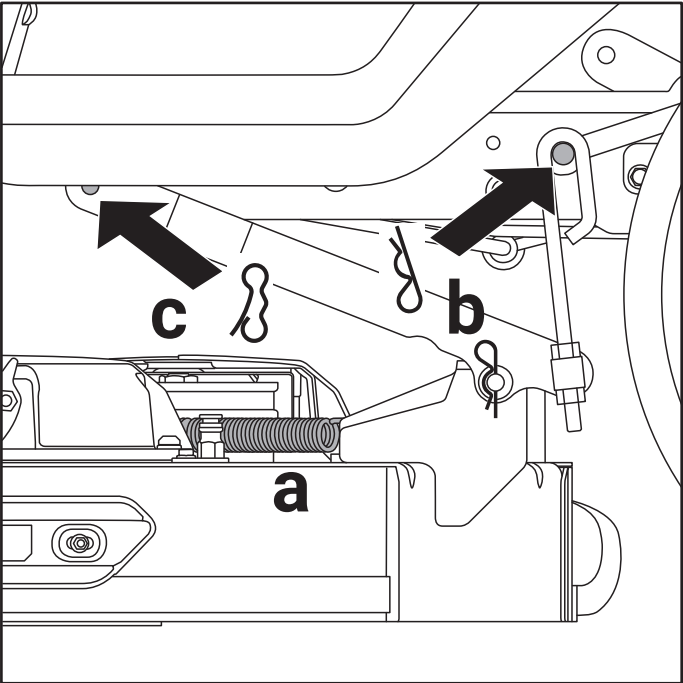
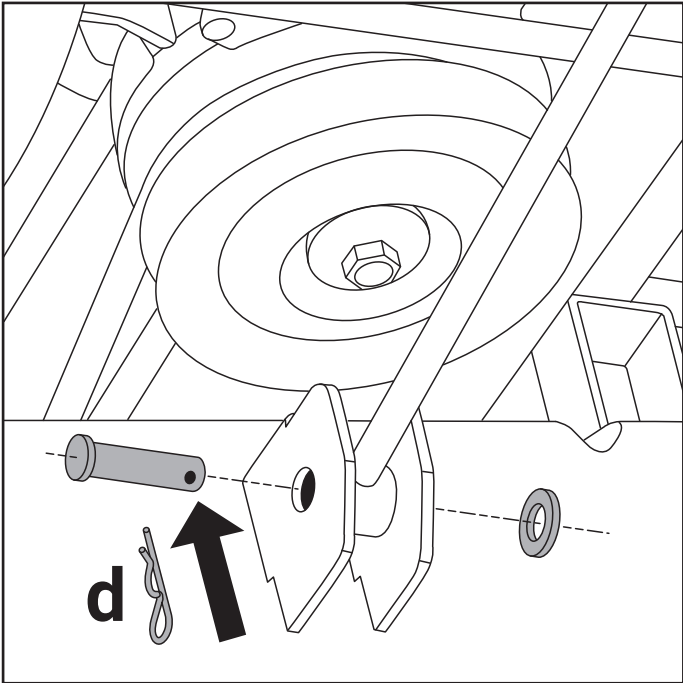

Fig. 27A
Fig. 27B
3. Disconnect the cable spring (a, Fig. 27A) that connects the deck to the tractor.
4. Remove the 5 hitch pins, 2 on the left (b and c, Fig. 27A), 2 on the right (the same position as shown on left), and 1 on the front (d, Fig. 27B) that secure the deck in place.